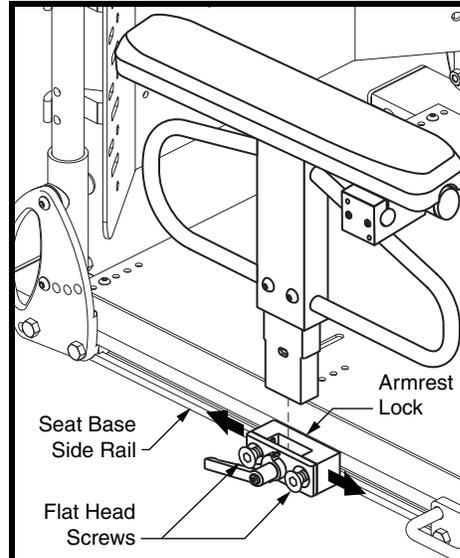

Figure 22. Heavy Duty Drop-In Armrest Position Adjustment
2. Loosen the flat head screws that fasten the armrest lock to the seat base side rail. **See figure 22.**
5. Install the armrest in the armrest lock. **See figure 22.**